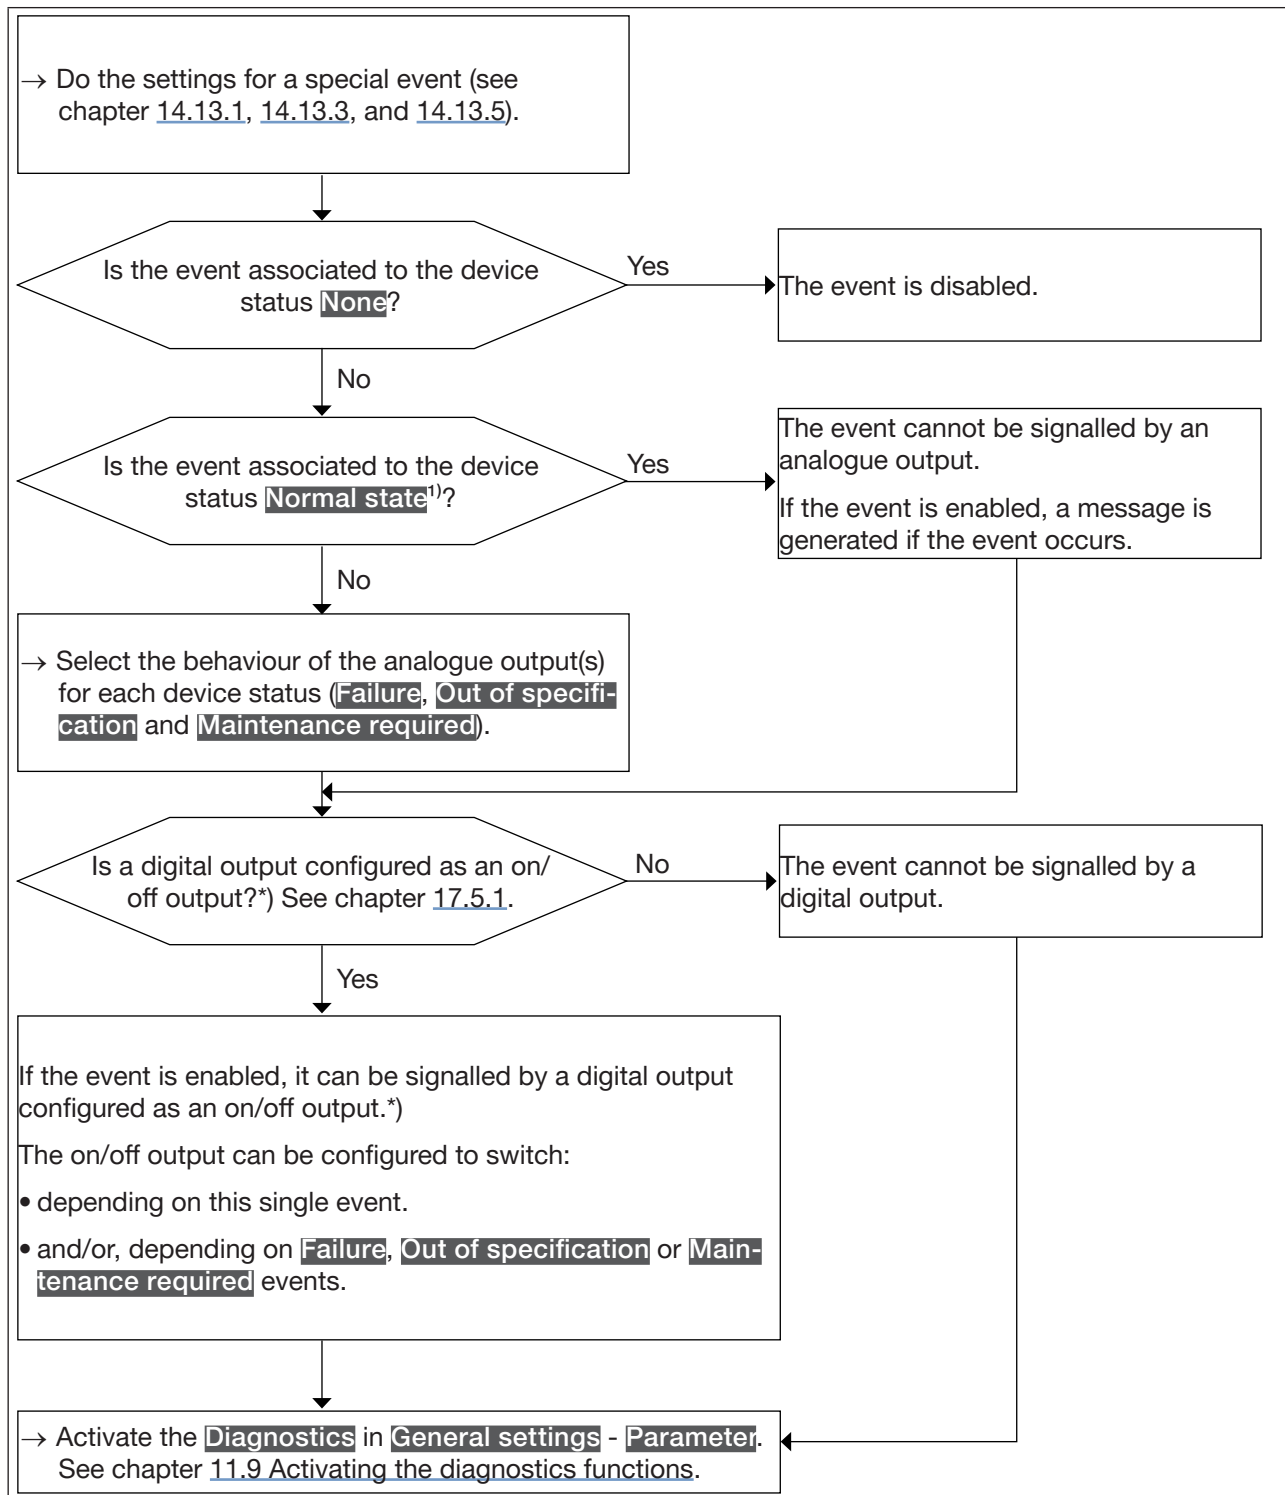

Figure 34: Flowchart: configuration of the diagnostics
- To be informed if a special event occurs in the process, on the sensor or on the electronics^{*)}, configure the diagnostics as shown in the flowchart in Figure 34.